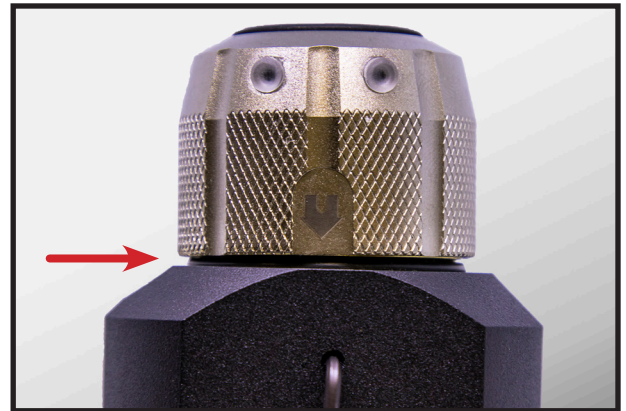

Figure 5: *Gap between Cap and Padlock*
- 15) Remove the pin and continue screwing on the cap until it locks in place a second time. There should be **no gap** between the cap and the padlock body. See Figure 5 for reference of visible gap.